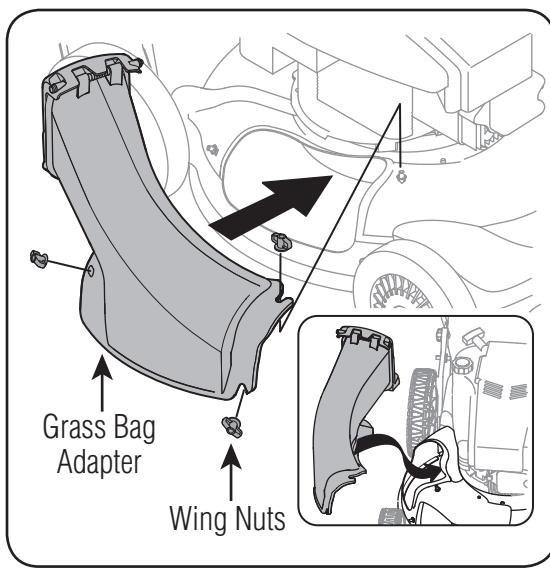

Figure 6
- b. Replace with bagging adapter (see Figure 6). Attach using wing nuts. Be sure that inner lip of attachment goes under the edge of the deck.